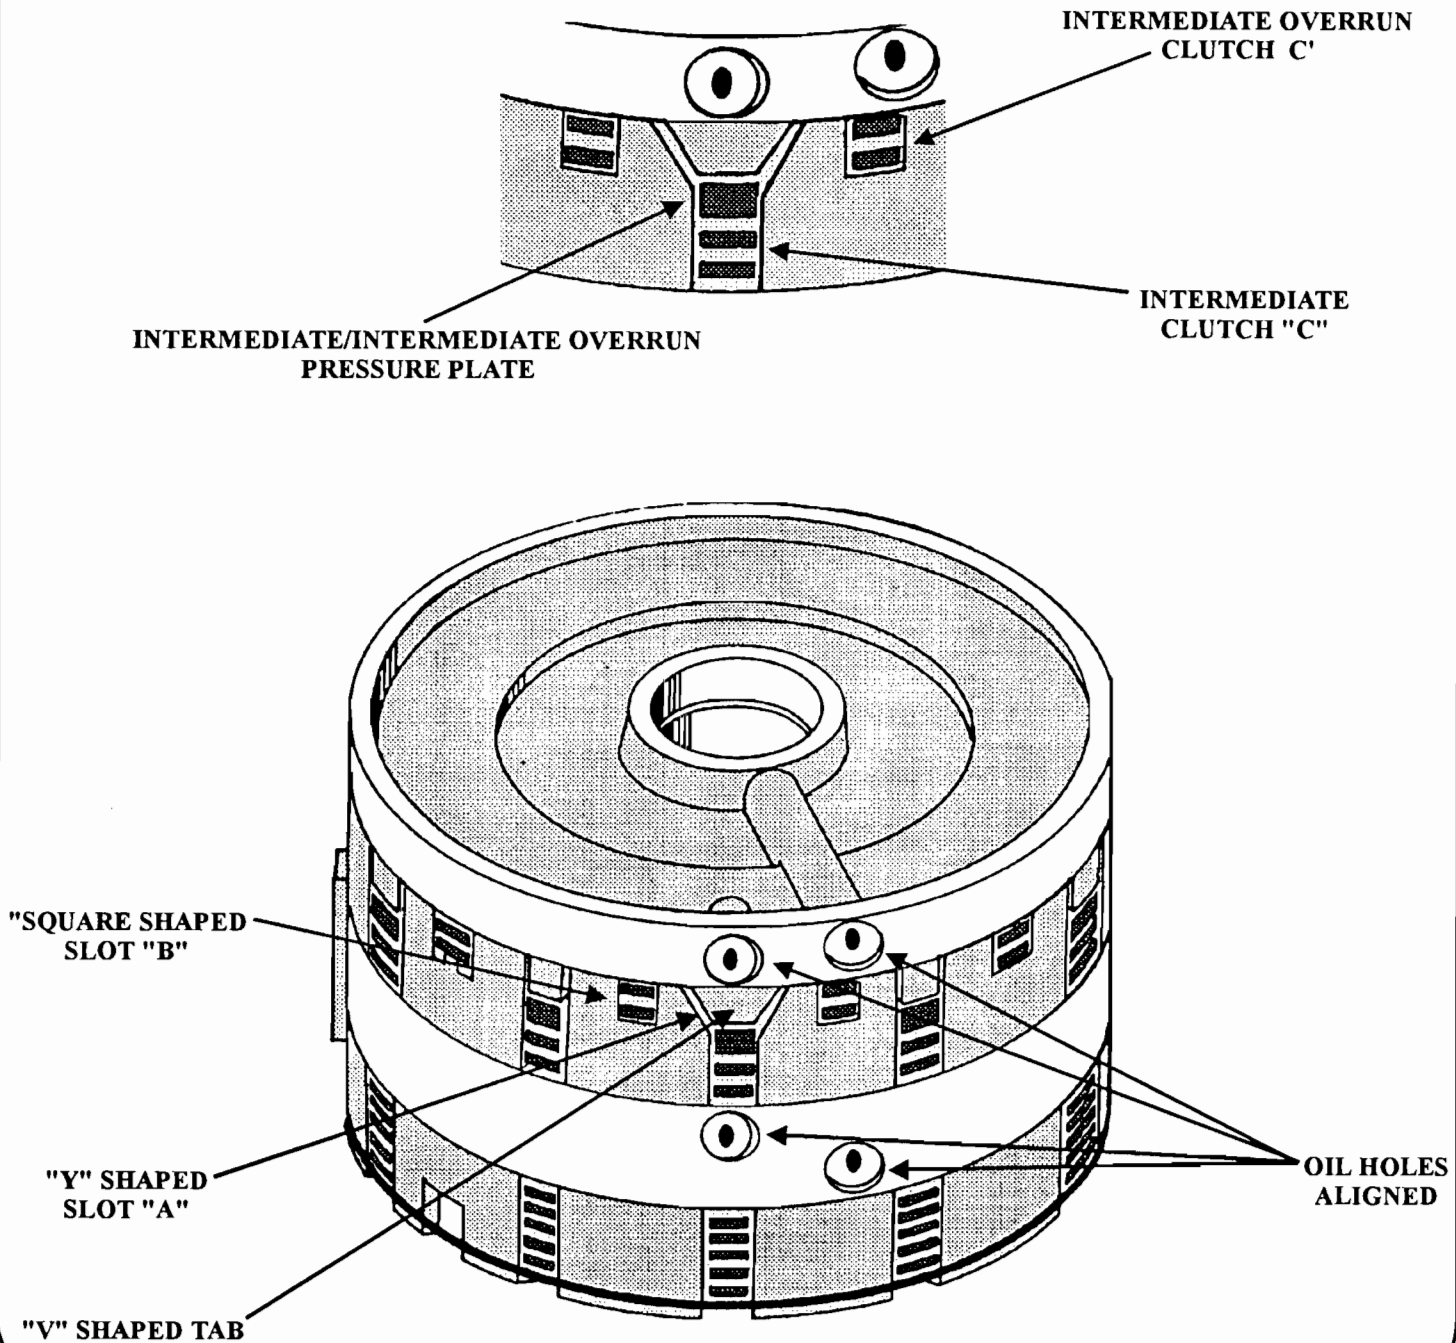

Figure 69
2. Install the intermediate clutch pack, beginning with a steel plate and ending with a friction plate. The outside lugs of the intermediate steel plates index into the "Y" shaped slot "A" as shown in figure 69.
3. Index the outer lugs of the intermediate/intermediate overrun clutch pressure plate into the "Y" shaped slot "A" as shown in figure 69.
4. Install the intermediate overrun clutch pack, beginning with a friction plate and ending with a steel plate making certain that the outside lugs of the intermediate overrun steel plates index into the "SQUARE" shaped slot "B" as shown in figure 69.
5. Install the intermediate overrun piston housing onto the clutch drum, making certain to index the "V" shaped tab of the intermediate overrun piston housing into the "Y" shaped slot marked "A", checking to see that all 4 oil feed holes in the clutch drum and the intermediate overrun piston housing are aligned as shown in figure 69.